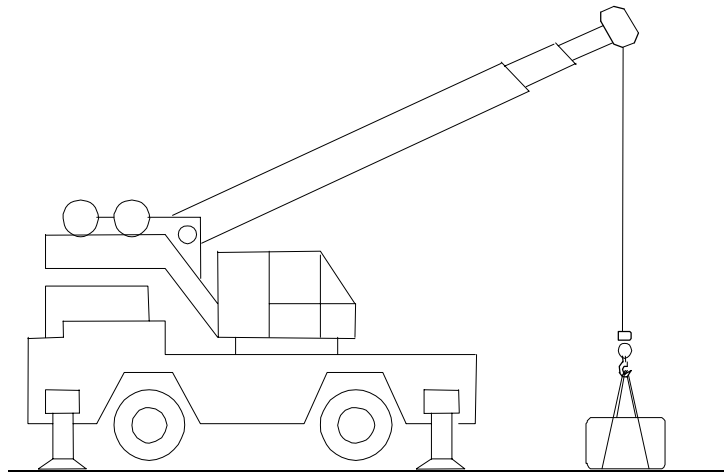

Figure 14
6. Leaving the test weight on the ground, lift the rigging, letting it hang slack from the hook (Fig. 14).